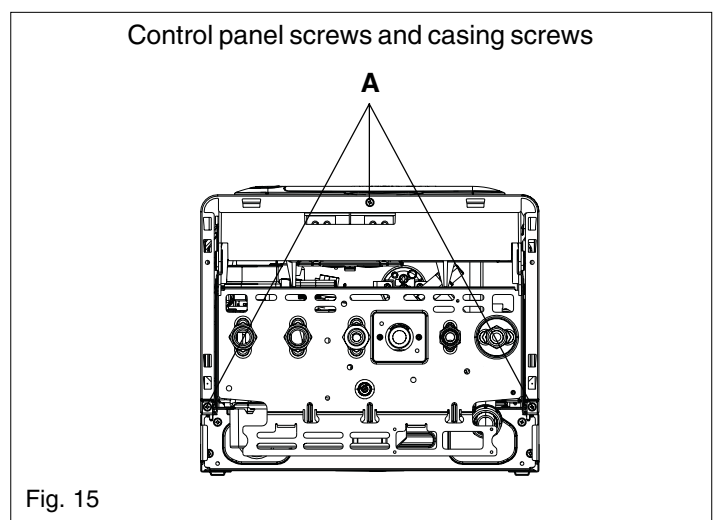

Fig. 15
- locate and unscrew the 3-screws that secure the outer casing to the appliance (fig. 15)